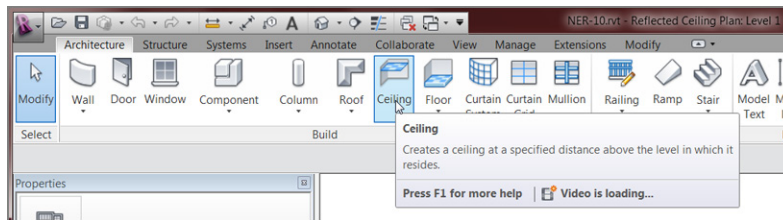

FIGURE 9.2 : The Ceiling button on the Architecture tab of the Ribbon
2. On the Architecture tab, click the Ceiling button, as shown in Figure 9.2.